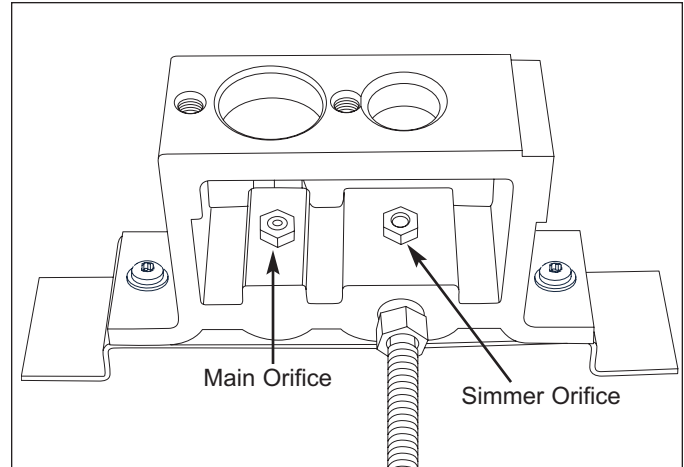

Figure 4-3. Orifice Removal
2. Use a 9/32" wrench or socket with extension, to extract orifice from orifice holder. (See Figure 4-3)